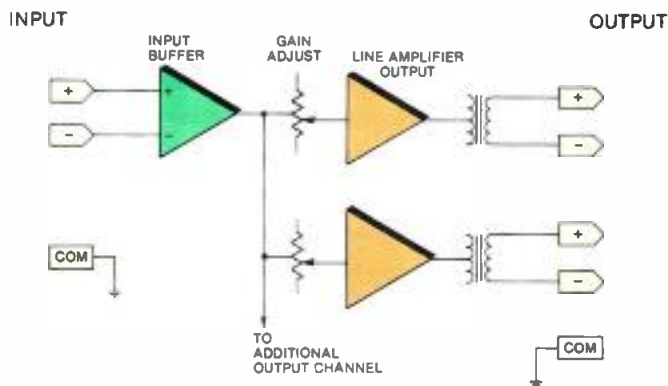

Figure 1. The architecture of a typical audio distribution amplifier.
The architecture of a typical distribution amplifier (DA) is shown in Figure 1. An input buffer accepts the incoming signal and routes it to several output level controls that individually drive output line amplifiers. The circuit uses a differential input buffer stage and transformer-isolated output amplifiers. Most DAs currently produced have at least six output channels per unit.